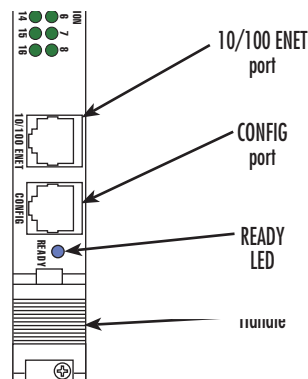

Figure 14. Model 3096RC interface ports
3. Connect the RJ45-RJ45 cable between the adapter which you installed in step 1 and the *RS-232 Config* port on the front of the Model 3096RC (figure 14).